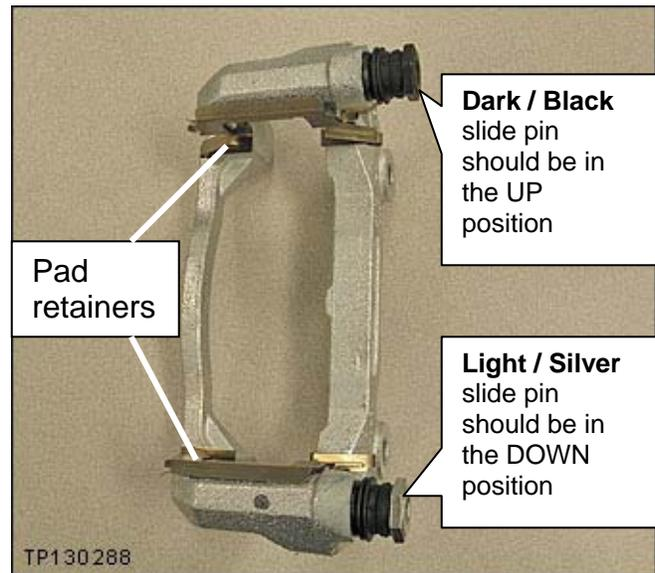

Figure 3
- Make sure to install the correct torque member on the correct side (refer to Figure 3 and the Parts Information).